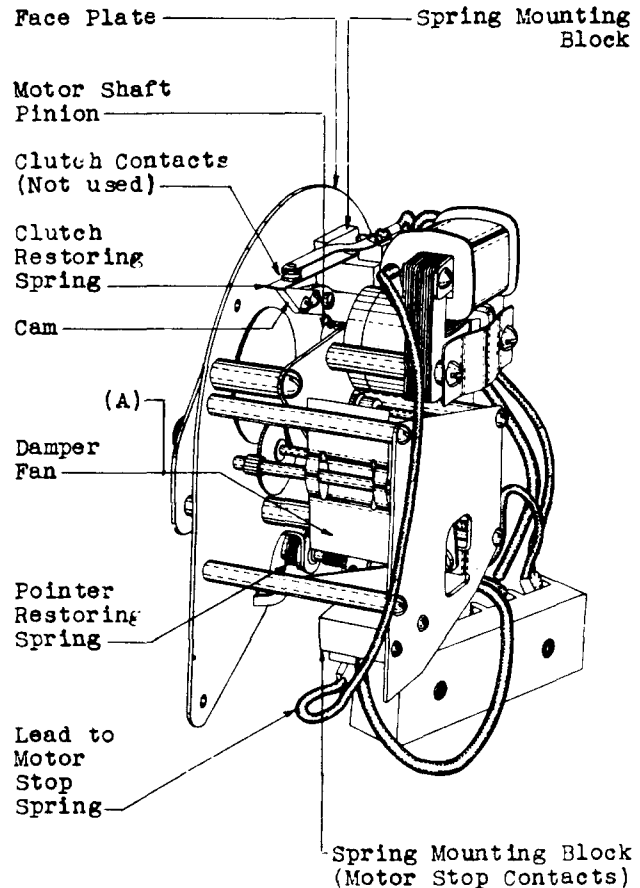

Fig. 4 - Rear View of KS-5464
*2.10 Damper Fan Clearance - Fig. 4 (A)